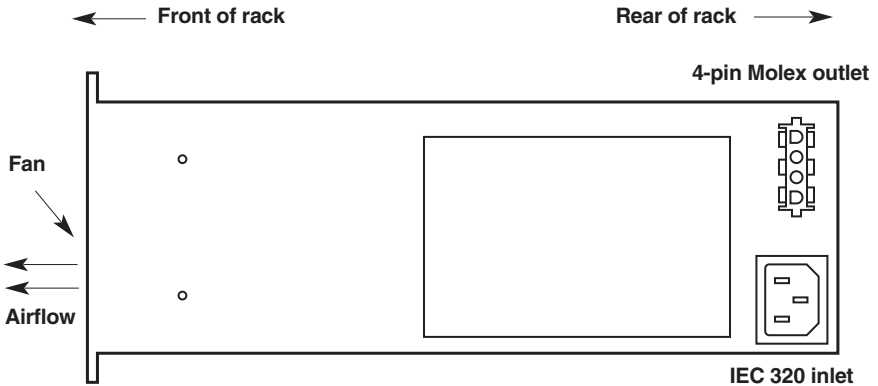

Figure 3-2. Side view of the PS500 rack-power supply.
3. Run an input-power cord from the IEC 320 male inlet on the side of the PS500—the *right* side as viewed from the front of the rack, see Figure 3-2 on the next page—to the turned-off utility AC outlet. (A cord designed for use in North America is included with the PS500; elsewhere, you might need to purchase a cord specific to your region separately.)
4. Run the included output-power cord from the 4-pin Molex female socket outlet on the side of the PS500—the *right* side as viewed from the front of the rack, see Figure 3-2 above—to the 4-pin Molex female socket inlet on the power strip at the bottom rear of the RM510A frame (see Figure 3-1 on page 17).